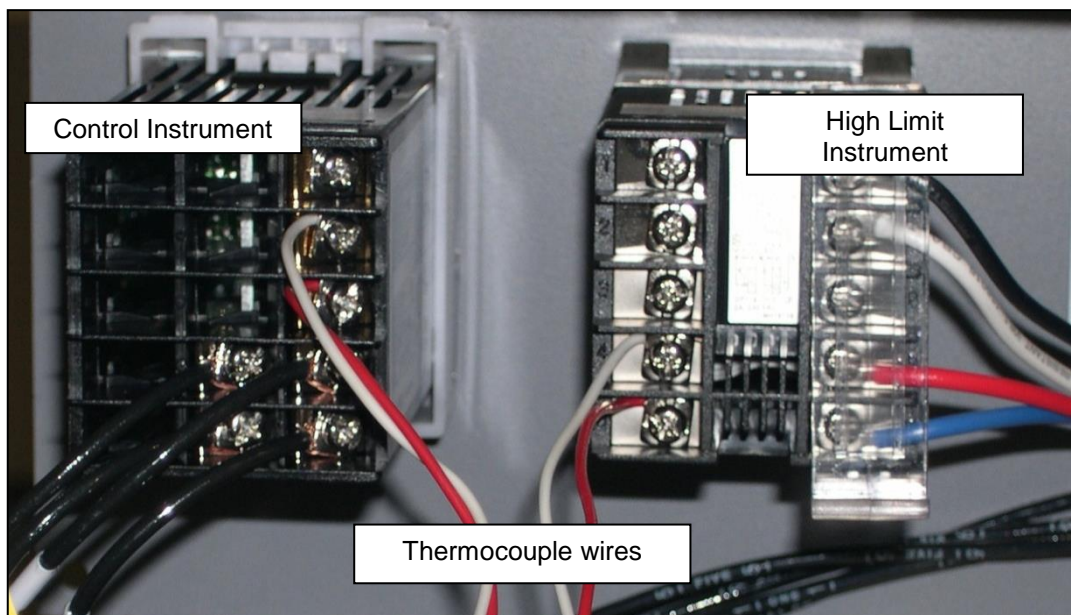

Figure 15. Remove old Control and High Limit Instruments and Wiring (Rear View).
- Remove wires from the old control instrument (using P1 Phillips screwdriver), carefully noting which wires connect to which terminals (Figure 15).
4. Remove wires from the old High Limit instrument, carefully noting which wires connect to which terminals (Figure 15).
6. Disconnect the thermocouple wires (Figure 15).
11. Reattach thermocouple wires. Make sure that the wires are connected correctly. (Figure 15).